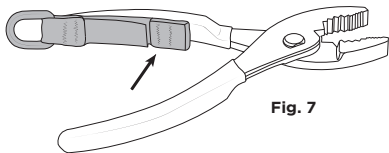

Fig. 7
3. Ensure that the web catch points are facing up [fig. 7].